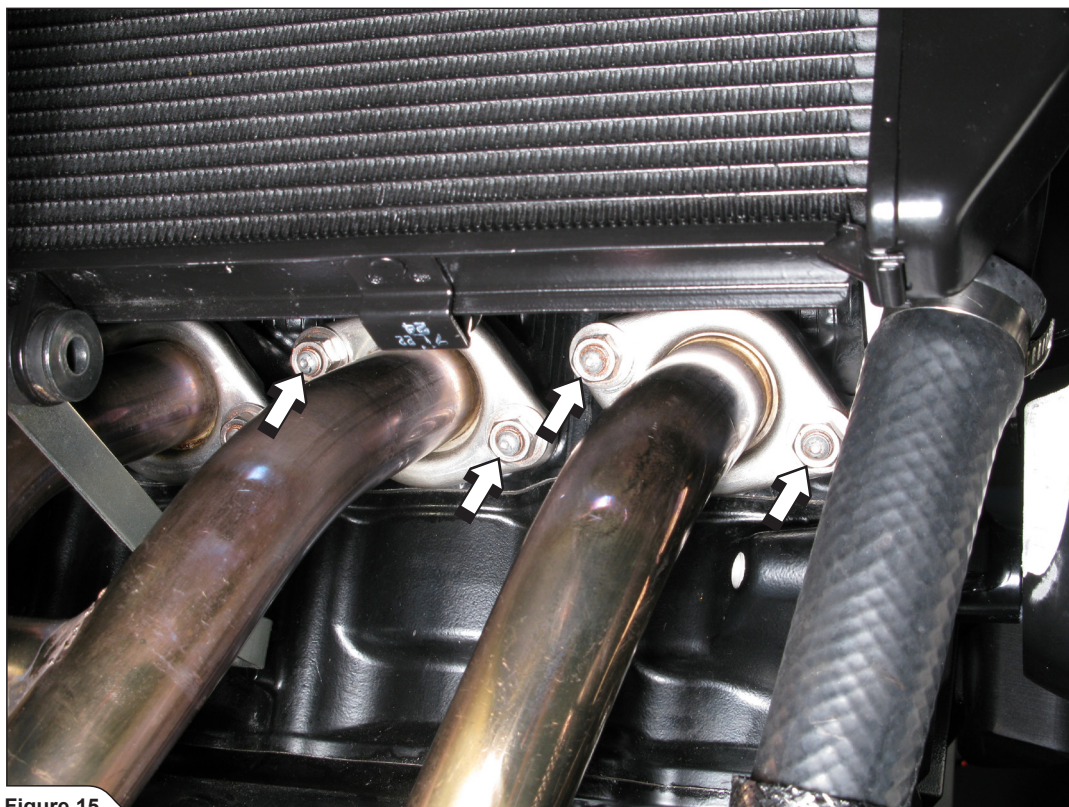

Figure 15
10. Unscrew all eight flange nuts (Figure 15).